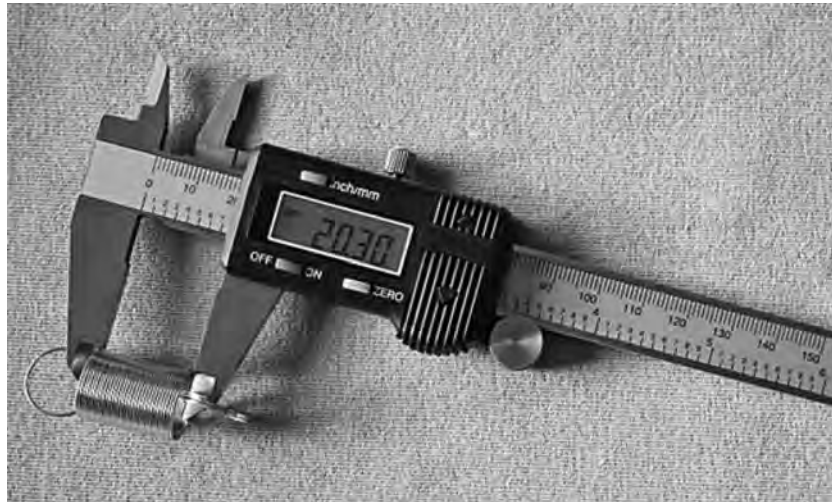

Figure 20
- 2 A student uses a digital calliper to measure the length of a spring, as shown in Figure 20.